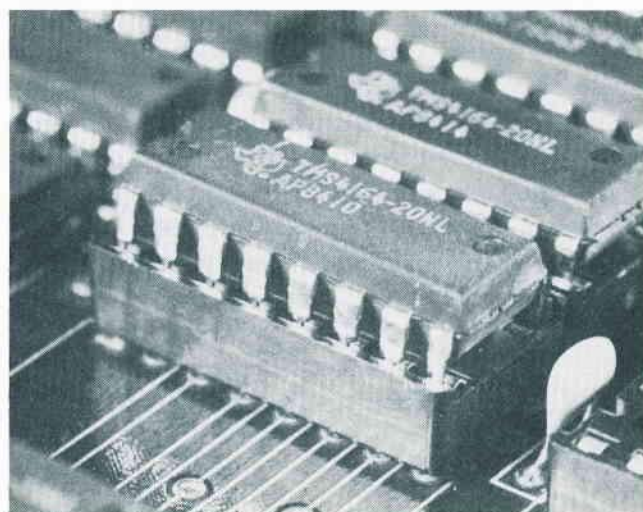

Fig. 3-10. Once each row of pins has been started into the socket, press down gently to complete the chip insertion.
- c. With the chip at a slight angle, press down gently, causing the row of pins in contact with the socket to bend slightly, which lets the other row of pins slip easily into their sockets, as shown in Fig. 3-10.